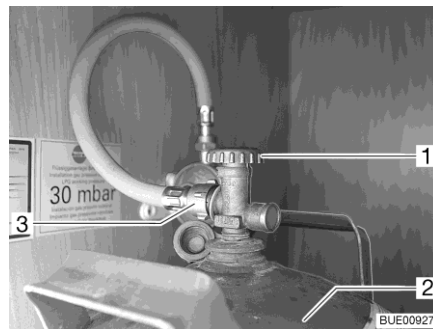

Fig. 131 Gas bottle compartment
- Close the regulator tap (Fig. 131,1) on the gas bottle (Fig. 131,2). Pay attention to the direction of the arrow.
- Unscrew the gas tube (Fig. 131,3) from the gas bottle.